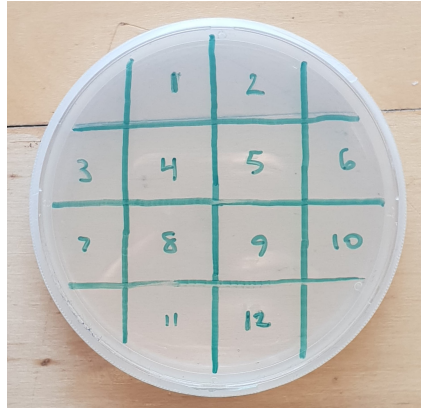

Figure 1: An example grid pattern for the patch plate you will make of soil colonies. The corner spots are not used because they are too small.
1. Draw a 4x4 grid (like in Figure 1) on the agar side of one of your 10% TSA plates and number the spots sequentially.